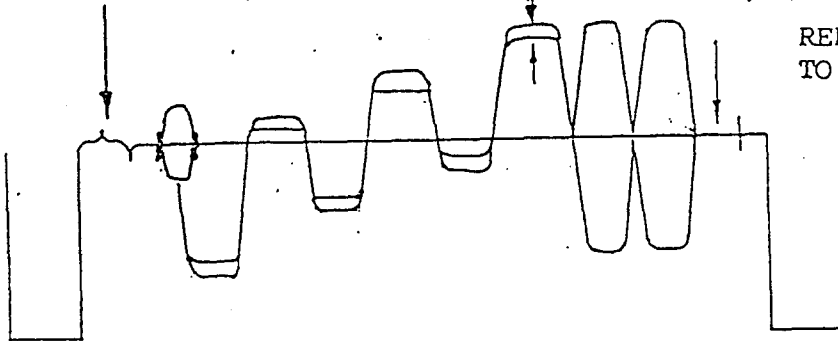

Fig.6
- (1) Receive Philips Pattern.
- (2) Connect Oscilloscope to TP303
- (3) Set the service switch (S301) to service position.
- (4) Set color control to maximum position.
- (5) Adjust T301, 302 and VR305 to obtain the waveform as Fig.6.